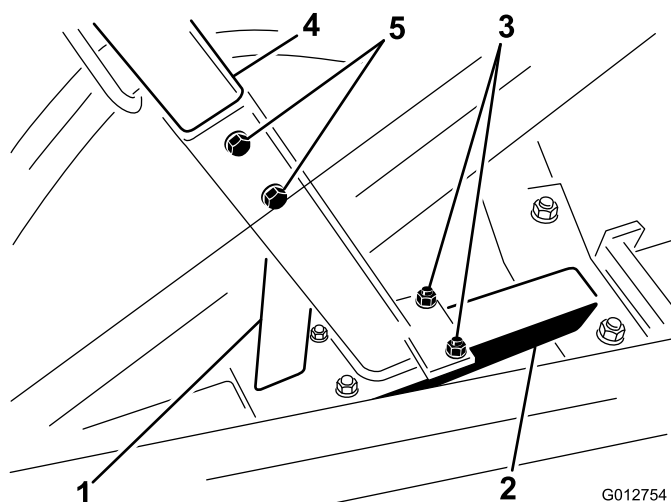

Figure 6
1. Loosely secure lower control tower to center frame tube with (2) U-bolts and (4) 3/8 inch flange nuts (Figure 6).
2. Mount upper control tower to lower control tower with (2) 3/8 x 2-3/4 inch capscrews and (2) 3/8 inch flange nuts (Figure 6).